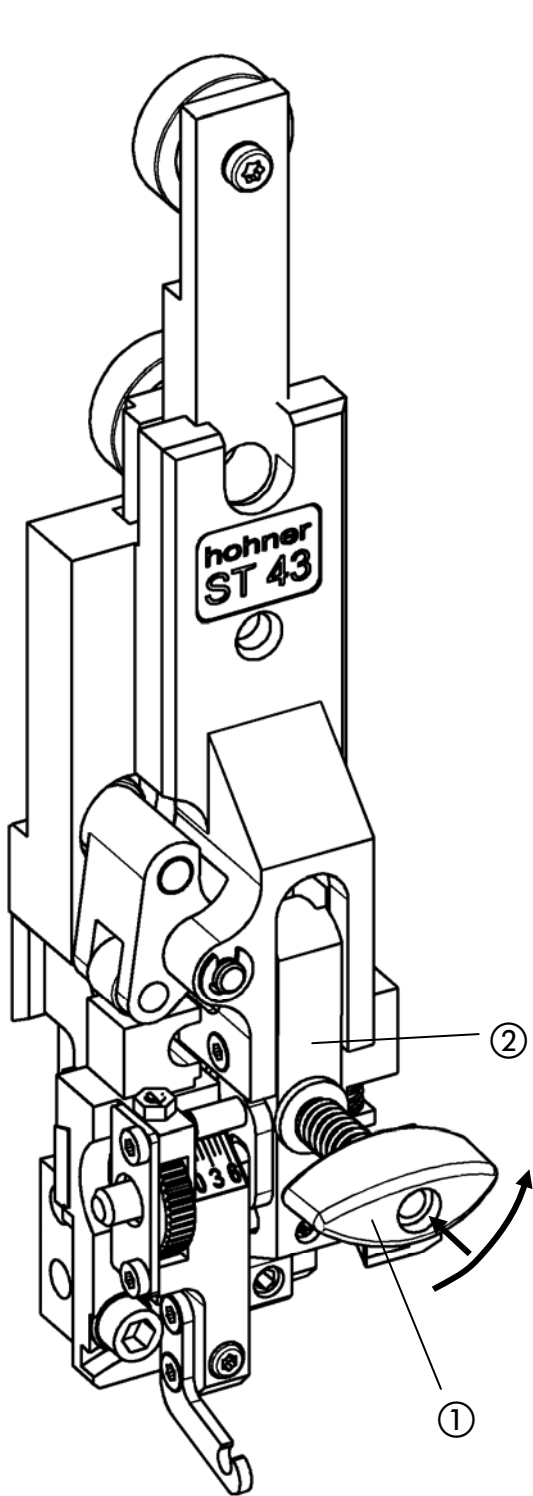
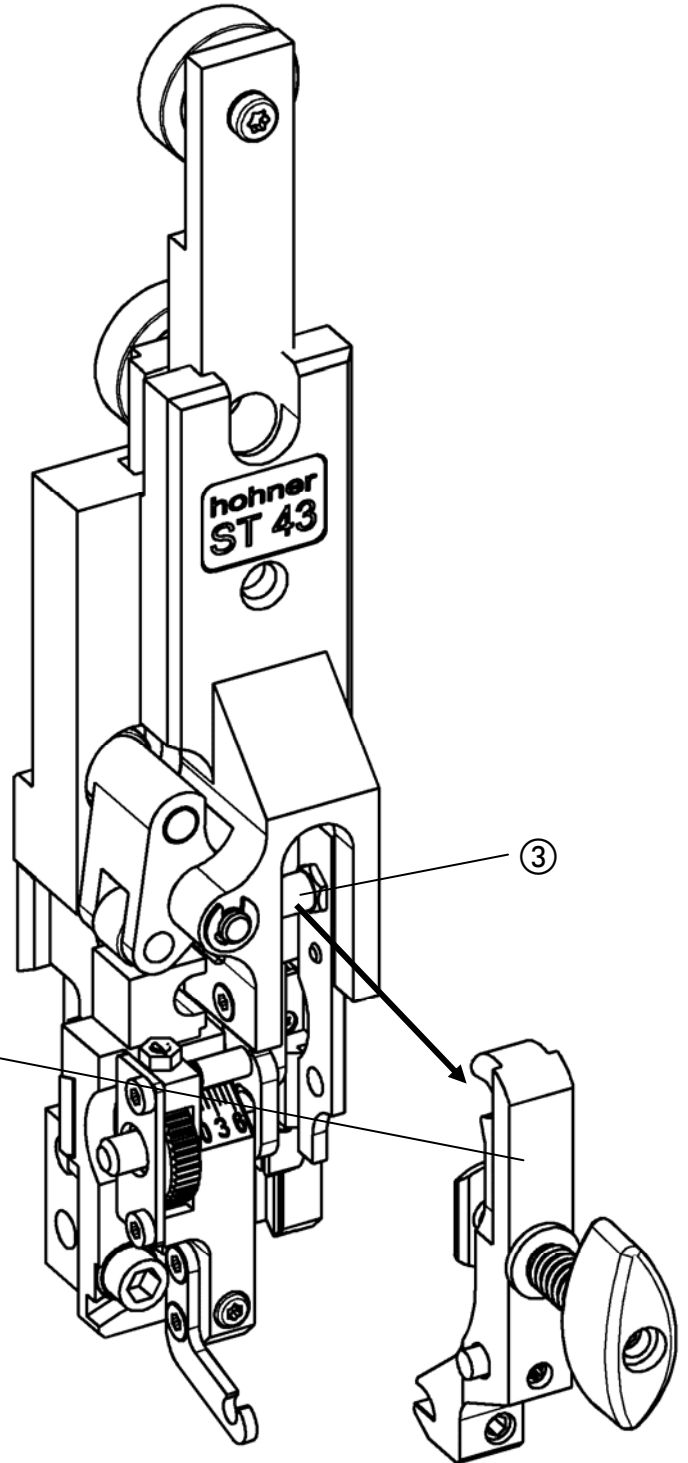

Fig. 18
Fig. 19
- Fig. 18, Fig. 19 -
- Push in clamping handle ① slightly and rotate by 90°. Remove former ② forwards.